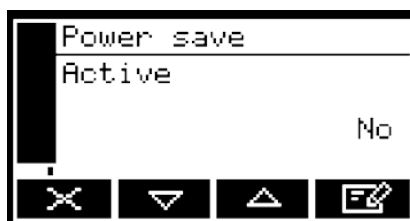

Figure 16 - The Power save option screen
1. With the Settings screen displayed, use the  and  soft keys to highlight the "Power save" menu option, then press the  soft key. The Power save option screen will then be displayed, as shown in Figure 16.